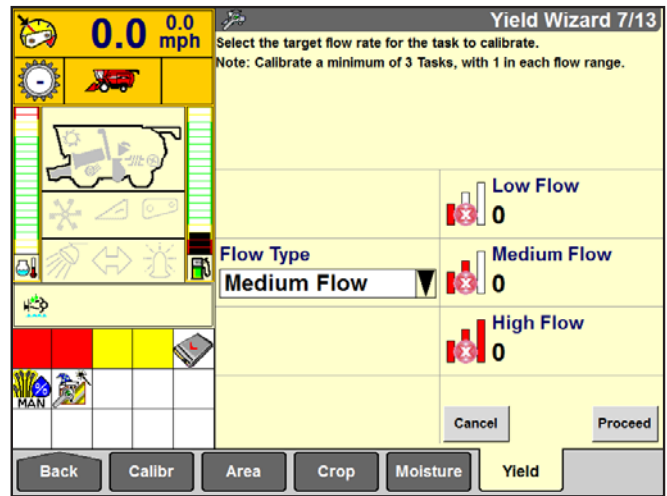

Figure 25.1
- Harvest separate loads at high, medium and low target throughput flow rates (see figure 25.1)